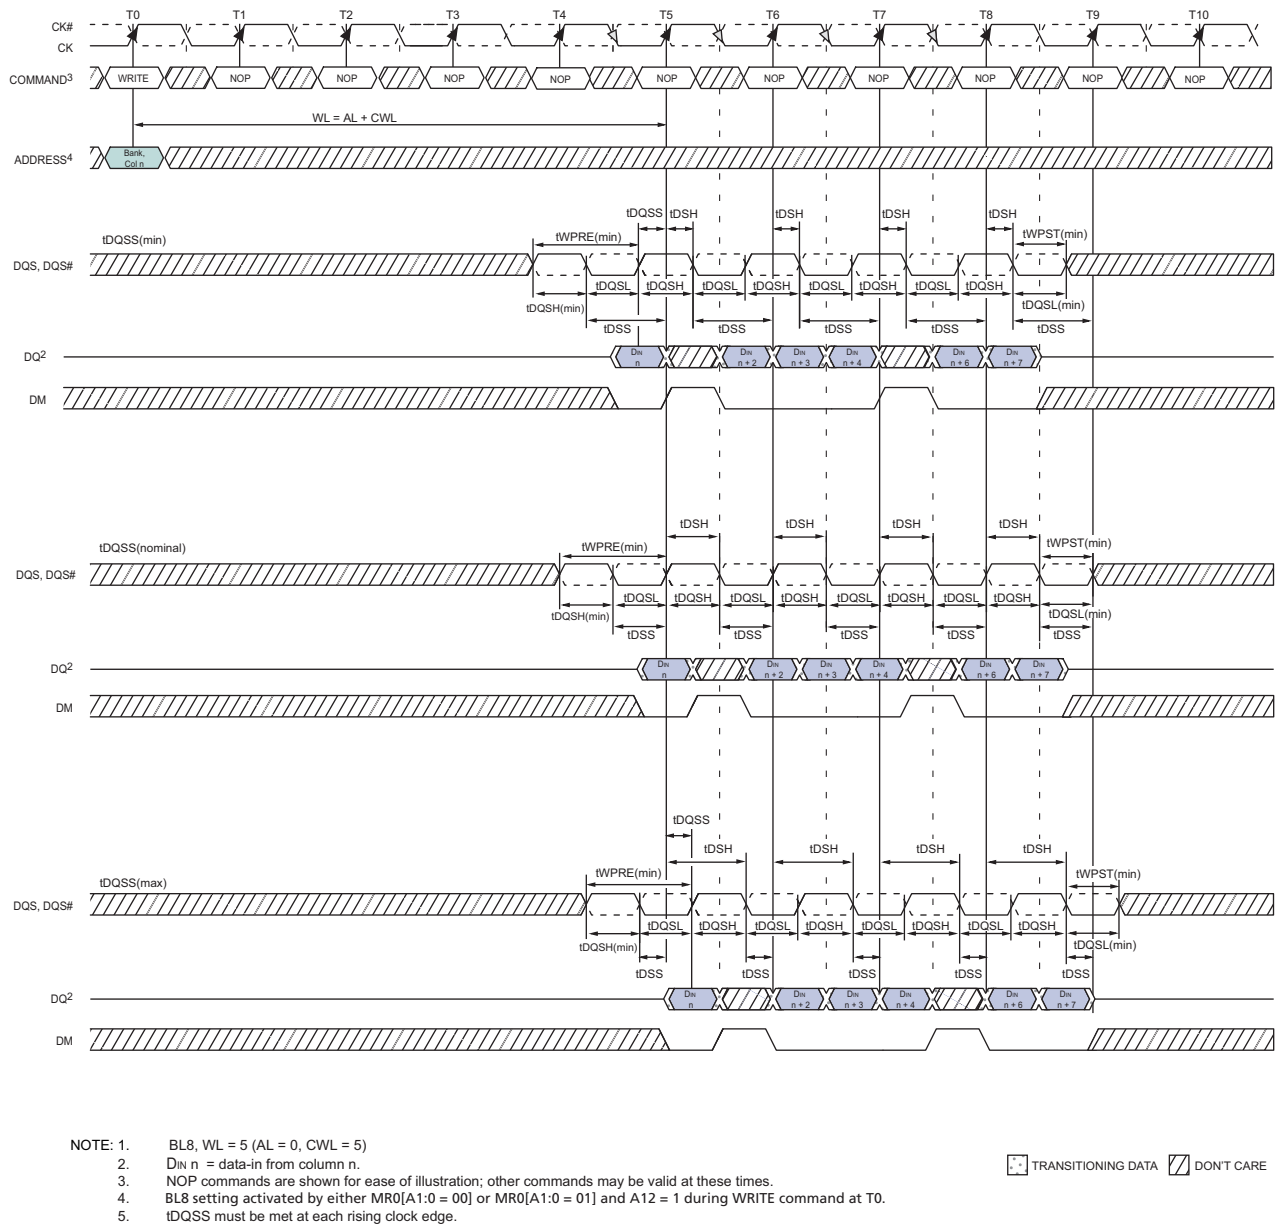

Figure 44 — Write Timing Definition and Parameters
In the example (Figure 44 on page 69), the relevant strobe edges for write burst A are associated with the clock edges: T5, T5.5, T6, T6.5, T7, T7.5, T8, T8.5.
One write data mask (DM) pin for each 8 data bits (DQ) will be supported on DDR3 SDRAMs, consistent with the implementation on DDR2 SDRAMs. It has identical timings on write operations as the data bits as shown in Figure 44, and though used in a unidirectional manner, is internally loaded identically to data bits to ensure matched system timing. DM is not used during read cycles for any bit organizations including x4, x8, and x16, however, DM of x8 bit organization can be used as TDQS during write cycles if enabled by the MR1[A11] setting. See 3.4.3.7 “TDQS, TDQS#” on page 29 for more details on TDQS vs. DM operations.